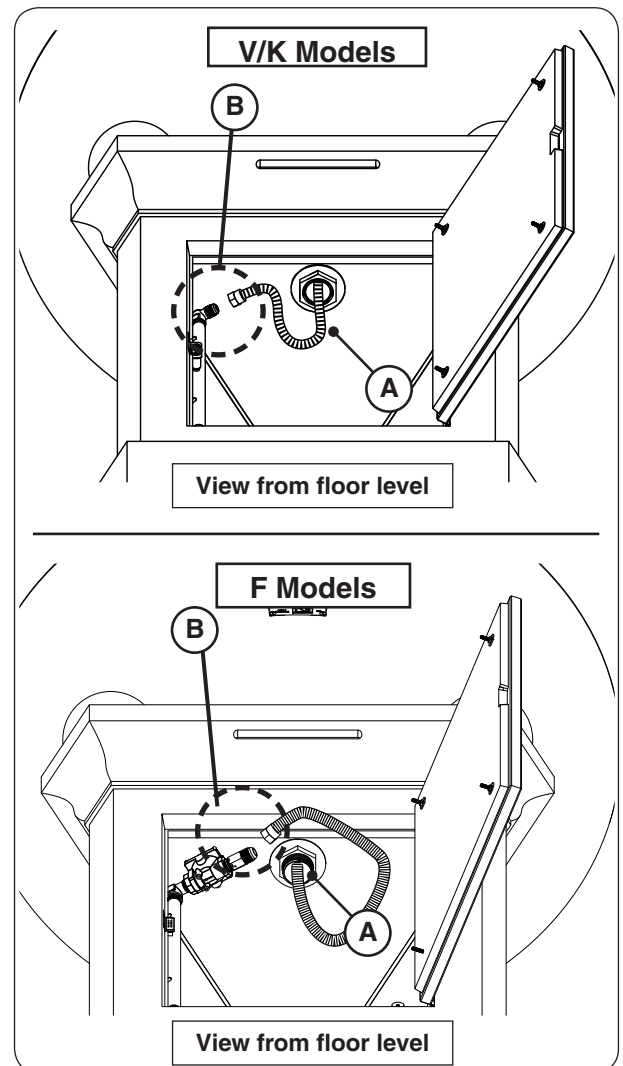

Fig. 29-1 Route flex & connect to pipe fitting
1. From above the fire bowl, route the flex connector (marked IN) that is coming off the valve assembly down through the center opening of the fire bowl (see Fig. 29-1, A).
3. From within the pedestal, connect the flex connector to the adapter/regulator found on the pipe extension (that is mounted to the interior wall of the pedestal). Tighten securely. See Fig. 29-1, B.